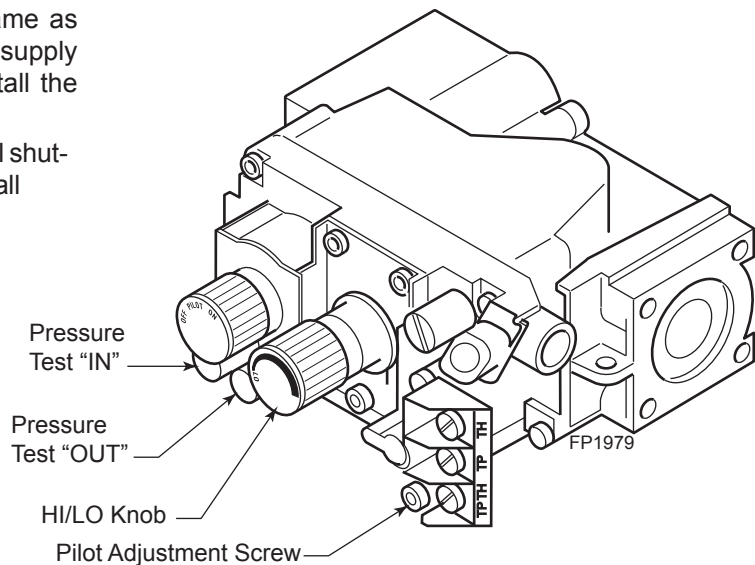

**Figure 42 -
5. To check gas pressures at valve, turn captured screw counter clockwise 2 or 3 turns and then place tubing to pressure gauge over test point. Turn unit to high. *Figure 42.* After taking pressure reading, be sure and turn captured screw clockwise firmly to reseal. Do not over torque. Check test points for gas leaks.